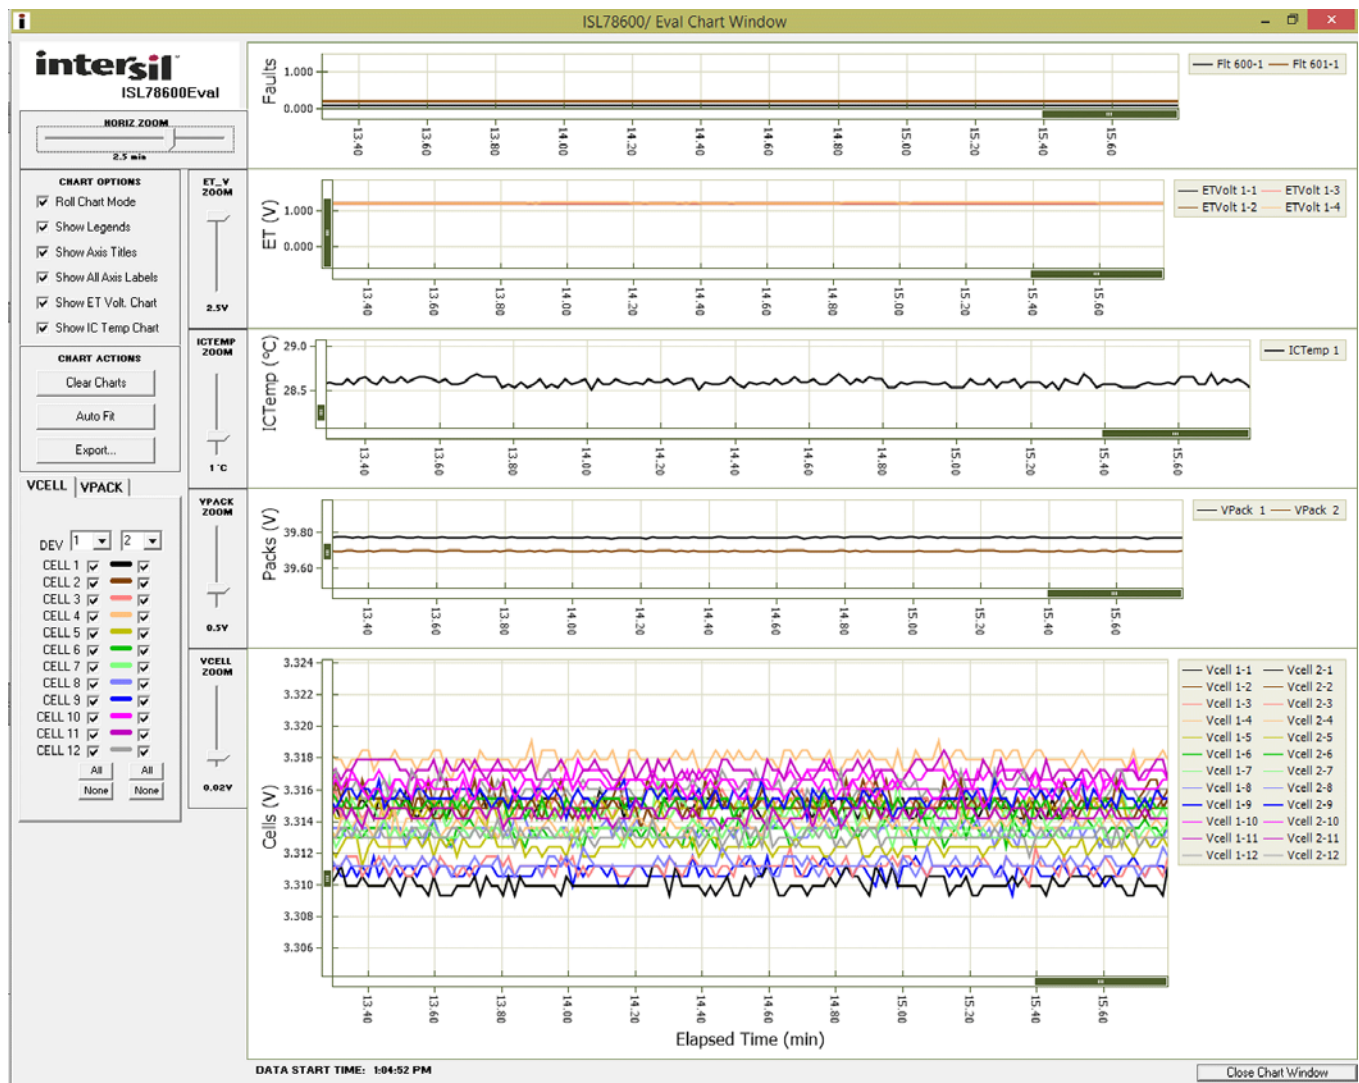

FIGURE 7. CHART WINDOW
9. Use the "Show Chart" button to view various voltages and status in real time (see Figure 7).